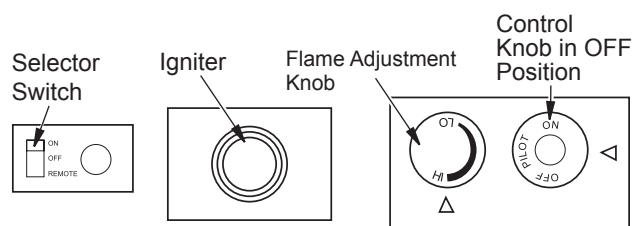

Figure 27 - Control Knob, Igniter Button and Remote Selector Switch
4. Press in and turn control knob clockwise  to the OFF position (see **Figure 27**).
5. Wait five (5) minutes to clear out any gas. If you then smell gas, STOP! Follow "B" in the safety information in column 1. If you don't smell gas, go on the next step.
6. Press in and turn control knob counterclockwise  to the PILOT position. Press in control knob for five (5) seconds (see **Figure 27**).
After lighting, let pilot flame burn for about one minute. Turn control knob to ON position. Adjust flame adjustment knob anywhere between HI and LO. Slide the selector switch to the REMOTE position (see **Figure 27**).